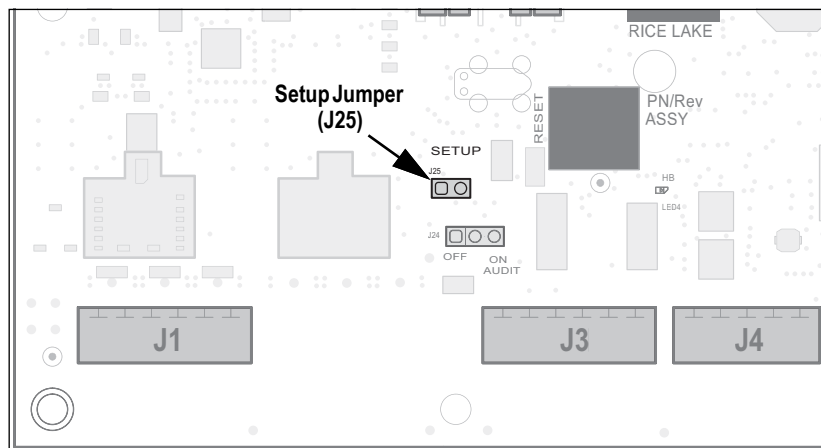

Figure 4-1. Setup Jumper Location on CPU Board
1. Access setup mode via the setup jumper (Figure 4-1 on page 27). **Config** displays.